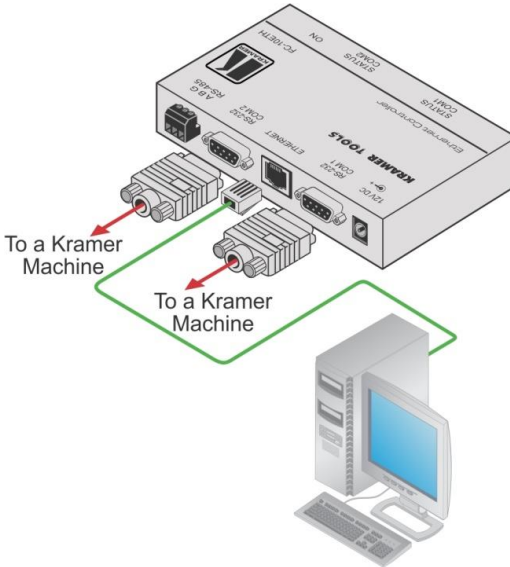

Figure 7: Connecting the FC-10ETH for Configuration
1. Connect the **FC-10ETH** as described in Section 4.1 (see Figure 7)